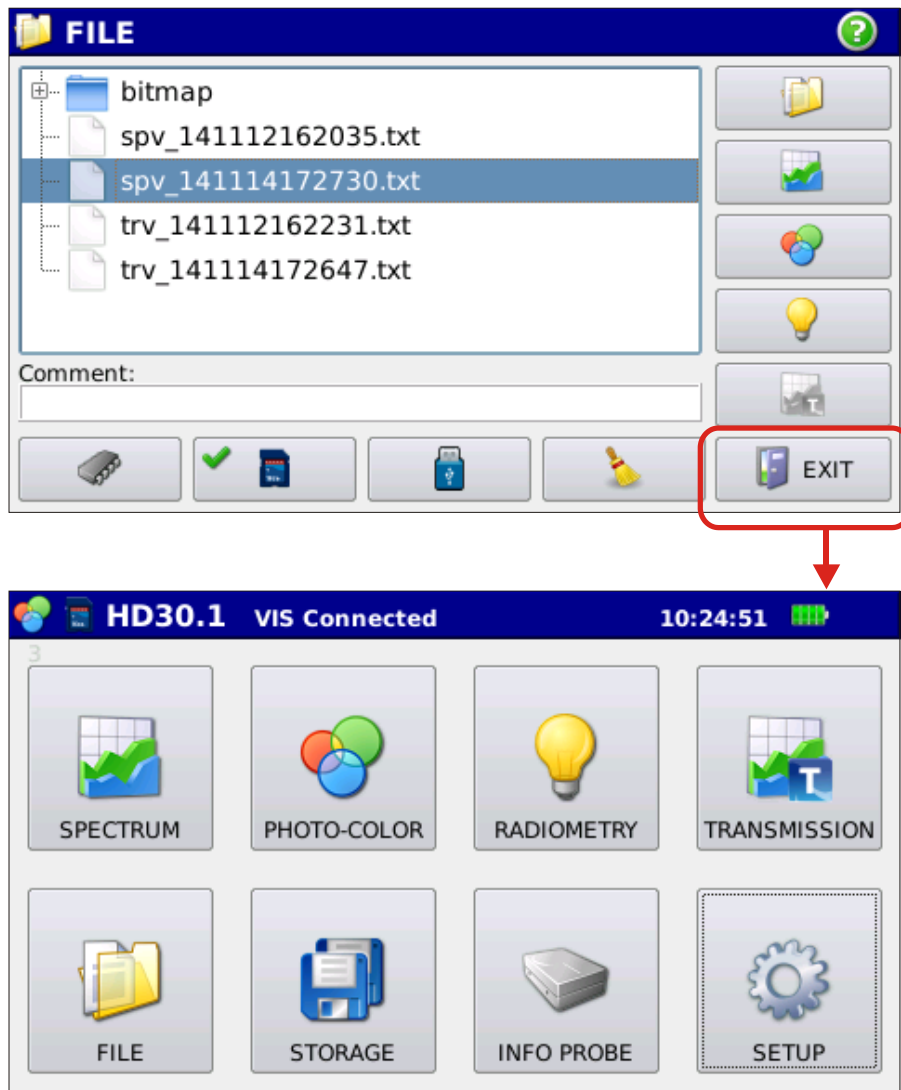

Fig. 4.18: Returning to the main menu from stored measurements management menu
4.7 Press  in the file handling window to return to the start-up screen (fig. 4.18)